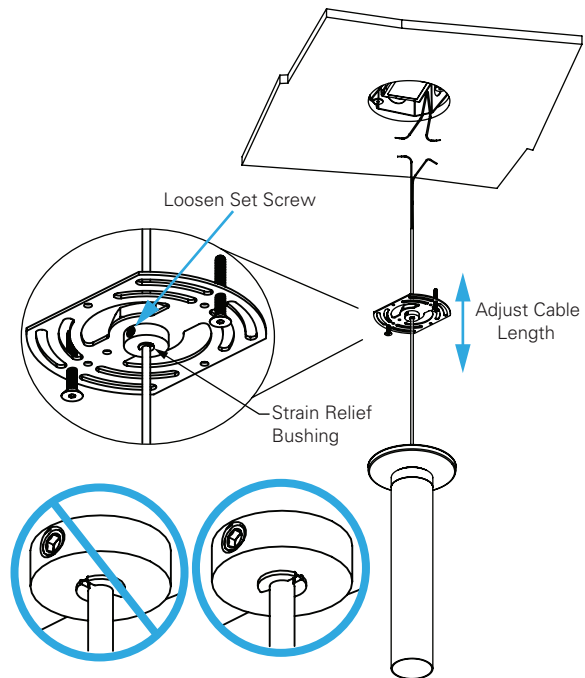

Figure 5.
1. Loosen the set screw securing the strain relief bushing, then adjust the length of the power cable between the universal crossbar and the fixture as desired (See Figure 5).